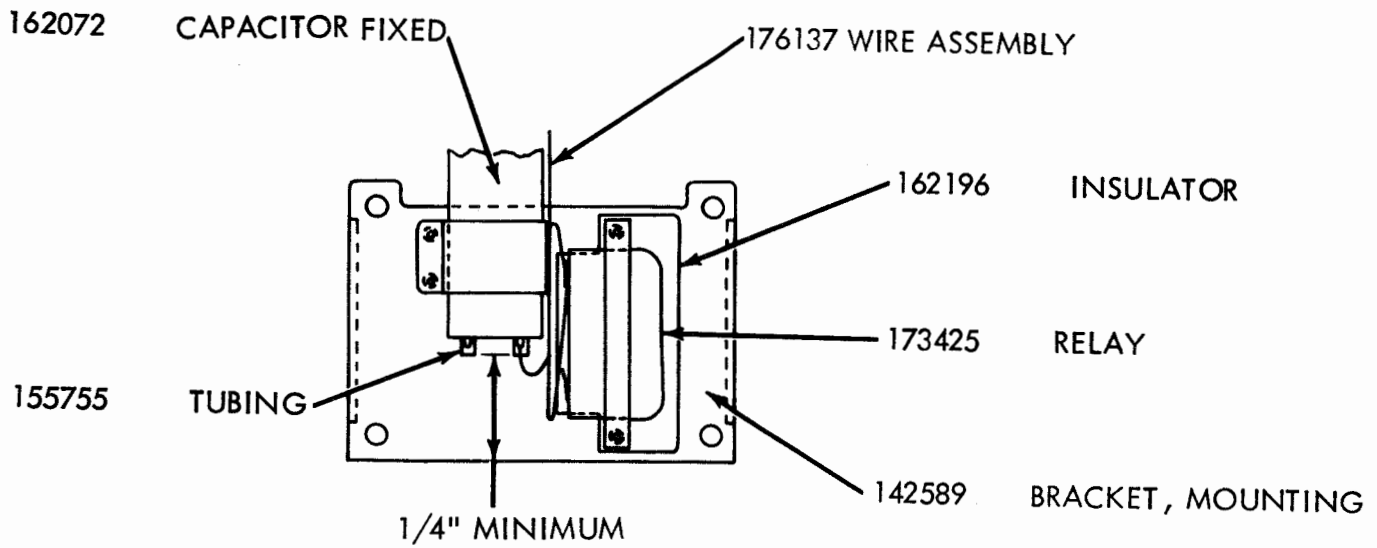

FIGURE 2
(1) Bearing surfaces between the locking bolts and their associated bracket.
(2) Pivot point and arm slot of the lid retaining arm.
(3) Cam portion of the cover latch.
(4) Latch cam.
5. WIRING --- Wire the set in accordance with the following information, caution note on Figure 2, and Wiring Diagrams 4353WD and 4354WD furnished with the LRB Base: